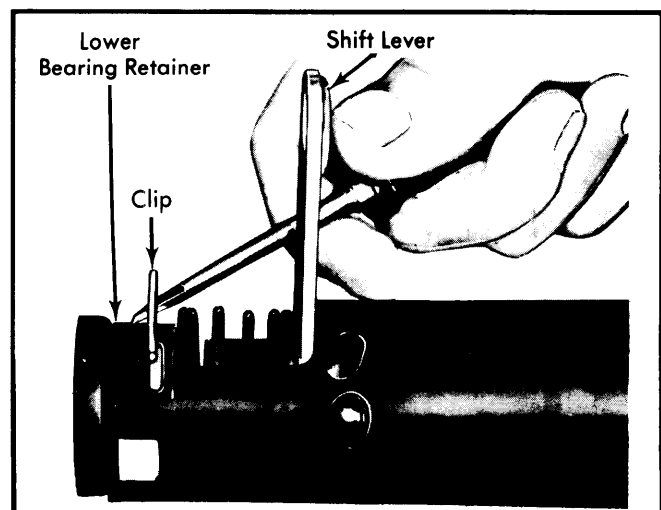

Fig. 3 Removing Lower Bearing Retaining Clip
4) Remove shift lever spring from gearshift lever housing (lock tube spring on floor shift models). Pull steering shaft from lower end of jacket assembly. Remove two screws holding back-up switch or neutral start switch to column and remove switch. Remove lower bearing retainer clip. See Fig. 3.